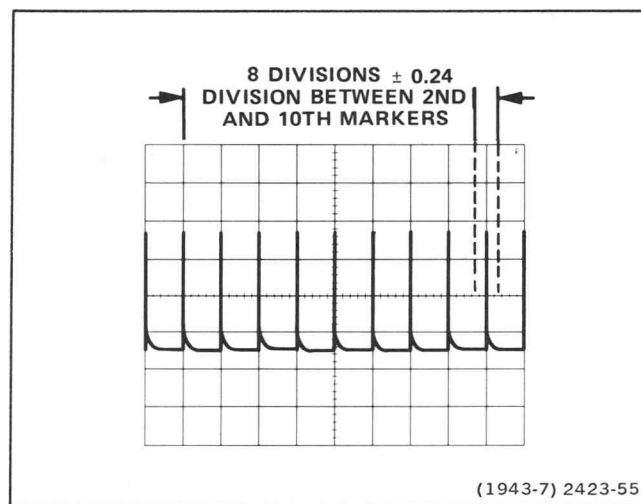

Fig. 4-6. SEC/DIV accuracy.
d. CHECK—SEC/DIV accuracy within 3% (1.2 minor divisions) over center 8 major divisions displayed (see Fig. 4-6) using equipment settings given in Table 4-5.